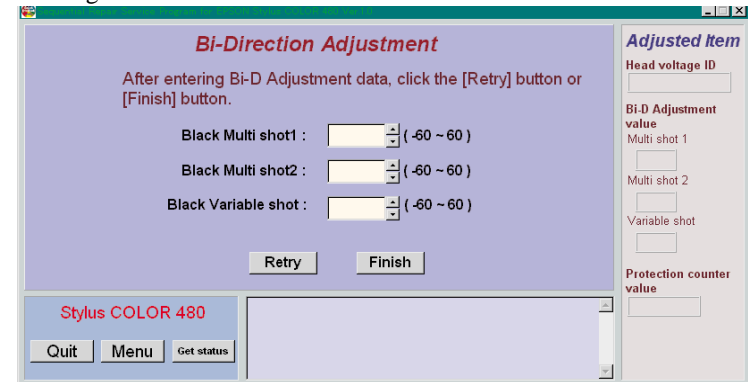

Figure 5-17. Input the suitable pattern number
11. Repeated Step 7) to Step 10) to adjust the Bi-directional print alignment completely. If you exit this Bi-directional print alignment program, click the “Finish” button on the above Figure 5-17 or Click the “Menu” button.